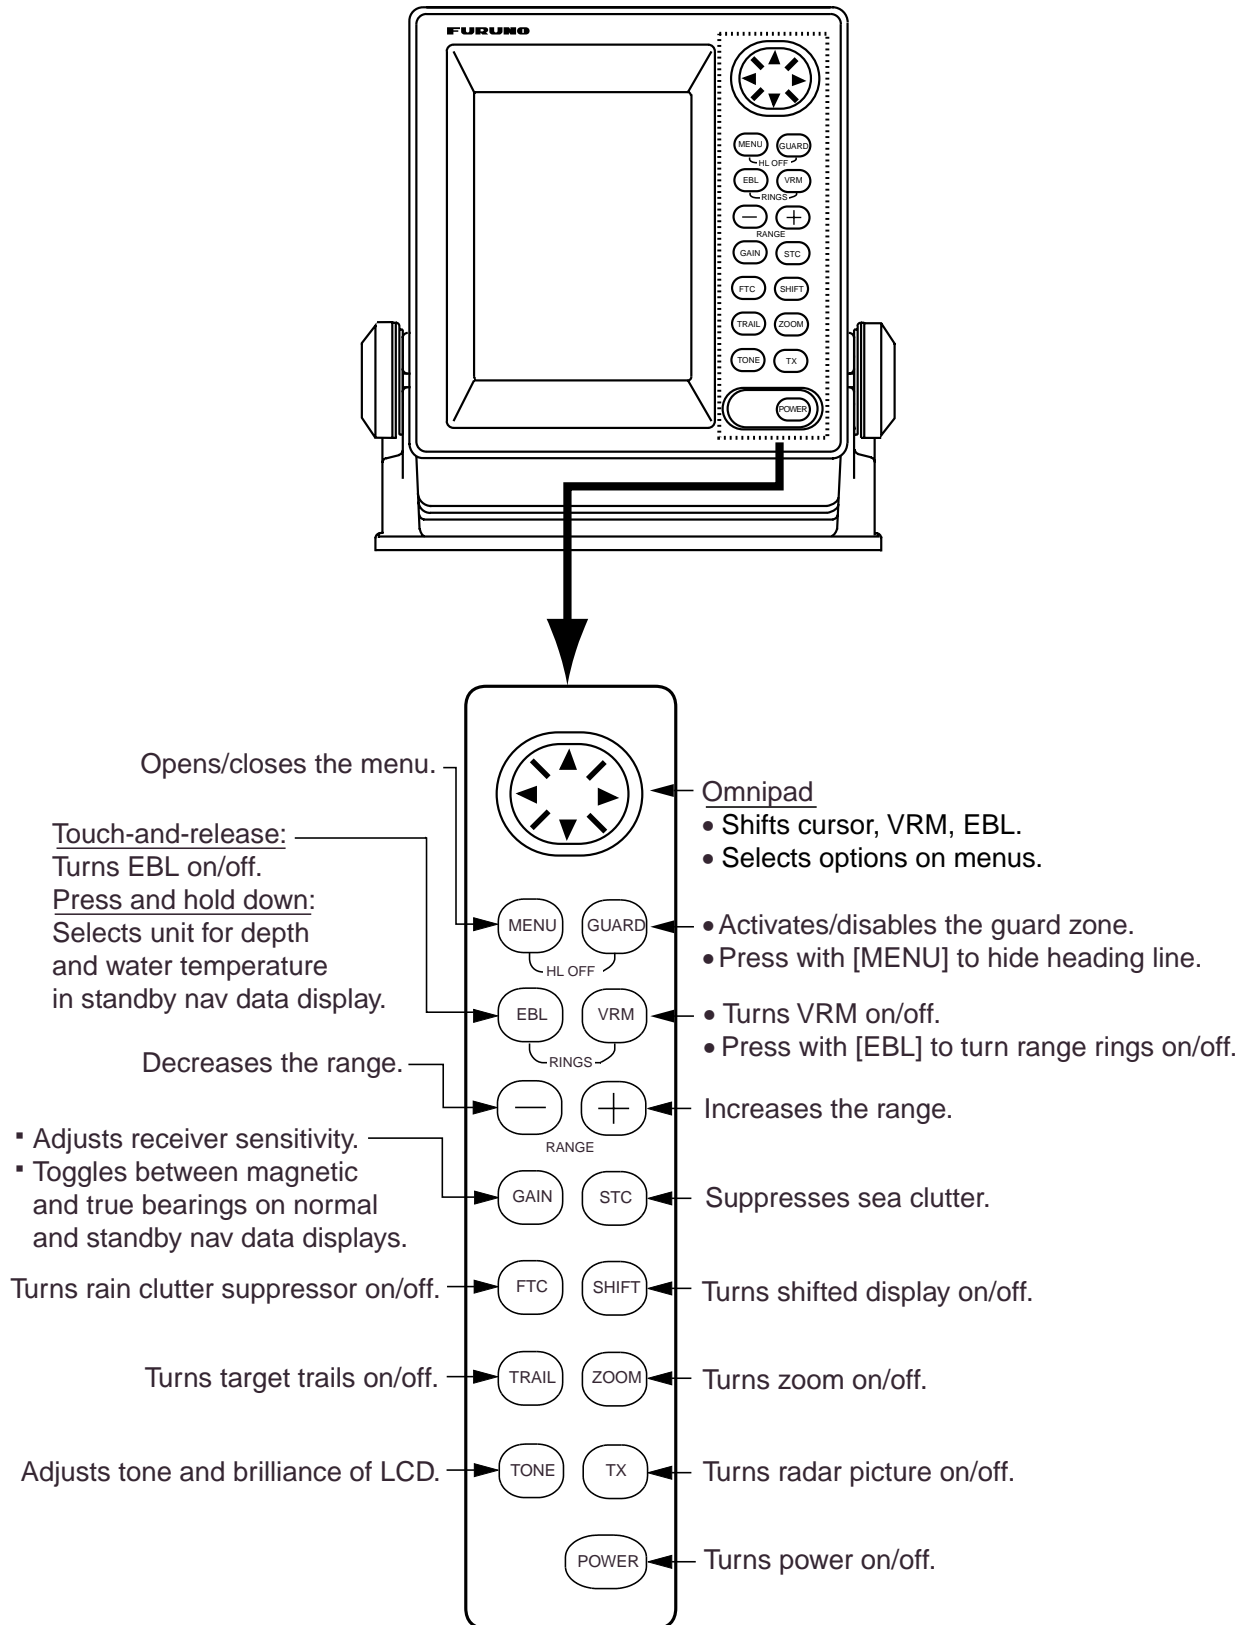

Figure 1-1 Control panel
1. Press the [TONE] key. The dialog box shown in Figure 1-1 appears.